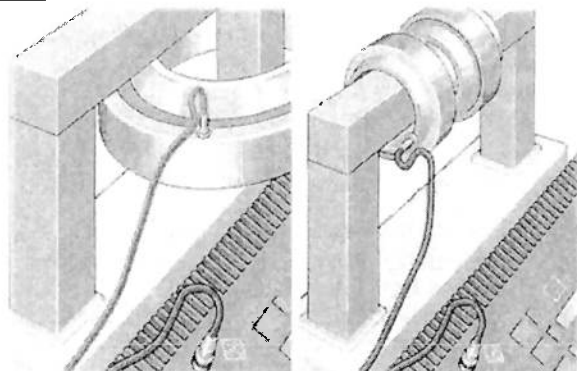

Fig. 1 - Heating using an induction heater
- Induction heaters (Figure 1); these have the following advantages: